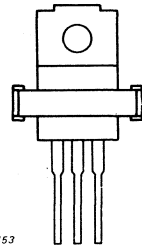

Fig.3a Position of device (top view).
3. Push down the clip over the device until the long end of the clip snaps into the wide slot in the heatsink. The clip should bear down on the main part of the body, not on the tab (see Fig.3a).